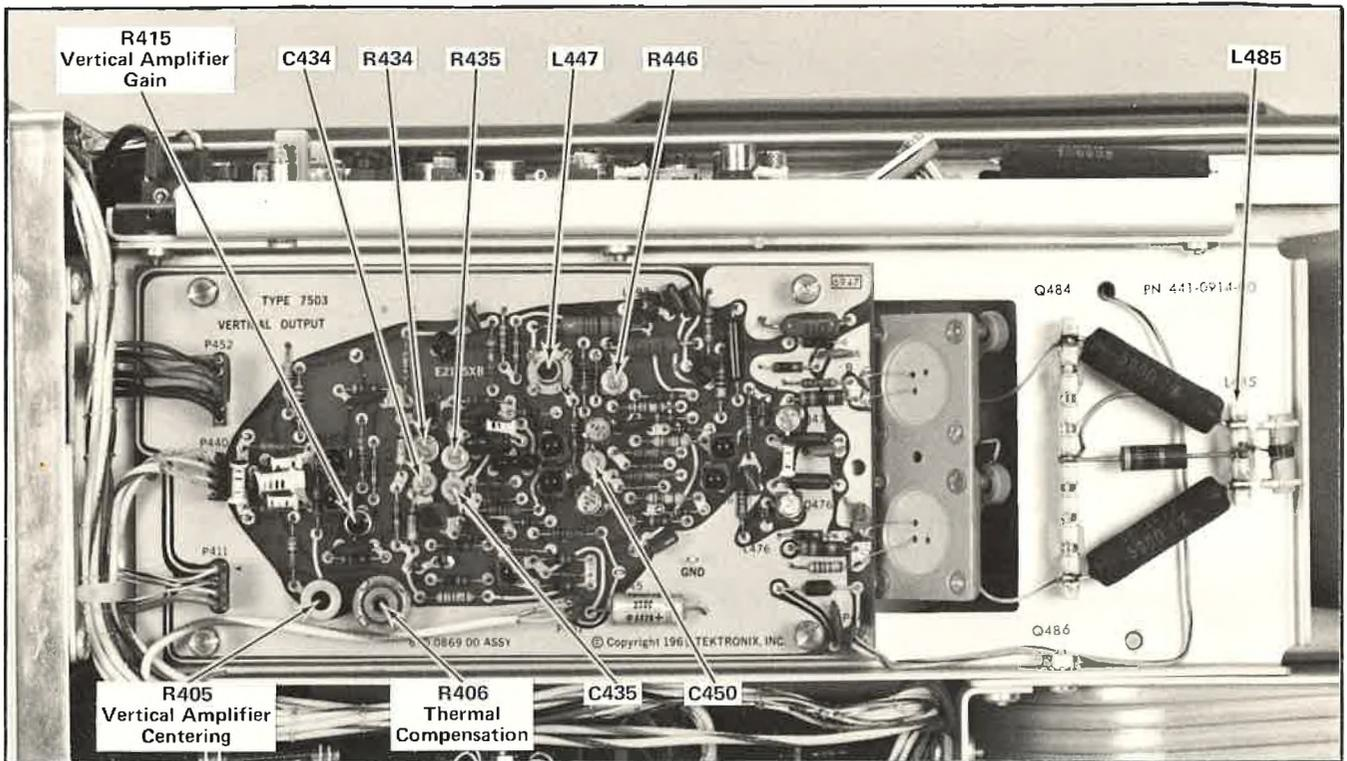

Fig. 5-11. Location of Vertical Amplifier adjustments.
- g. ADJUST—Vertical Gain adjustment, R415 (see Fig. 5-11) for exactly six divisions between the second and sixth traces (corresponding to the center 6 divisions) on the graticule. Use the Calibration Fixture Position control as necessary to center the display.
18. Check/Adjust Thermal Compensation with Readout System ①
e. ADJUST—R406 (see Fig. 5-11) for minimum vertical readout shift as the Calibration Fixture Position control is used to move the trace off screen above and below the graticule.
19. Check/Adjust Thermal Compensation without Readout System ①
d. ADJUST—R406 (see Fig. 5-11) for minimum change in the stationary trace as the Calibration Fixture Position control is used to position the other trace off screen above and below the graticule.
20. Check/Adjust Vertical Amplifier Centering ①
e. ADJUST—Vertical Centering adjustment, R405 (see Fig. 5-11), for exact centering of the displayed trace on the center horizontal graticule line.
21. Check/Adjust Vertical High-Frequency Compensation ①
(major effect 5 ns after corner), R446 (major effect 8 ns after corner), L485 (major effect 5 ns after corner), and C450 (fast leading edge) for optimum square-wave response (use low-capacitance screwdriver for the capacitors, and tuning tool for the inductors). Fig. 5-11 shows the location of these adjustments. Since these adjustments interact, readjust until optimum square-wave response is obtained, with rise time of less than 3.5 nanoseconds. Use the 7B52 X10 Mag On or Off as required to best view the effect of each adjustment.